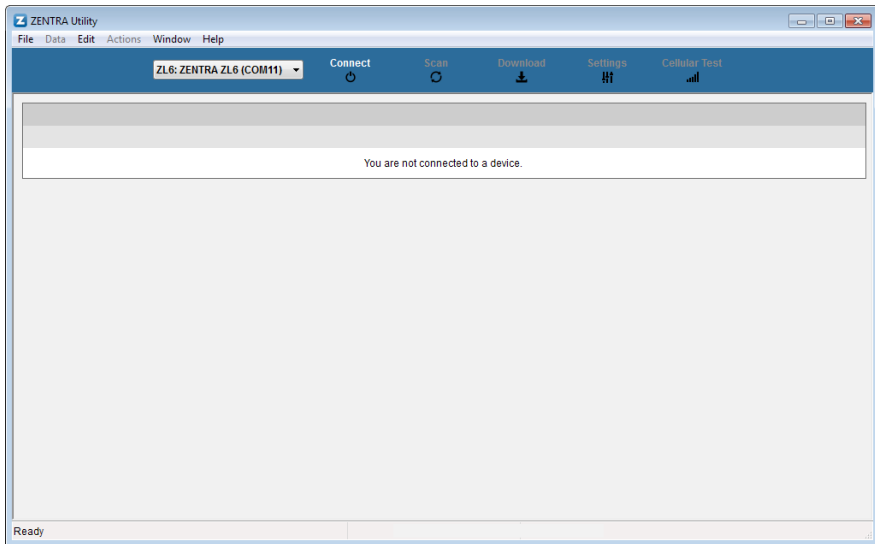

Figure 1 ZENTRA Utility initial screen
2. Open the ZENTRA Utility application (Figure 1).